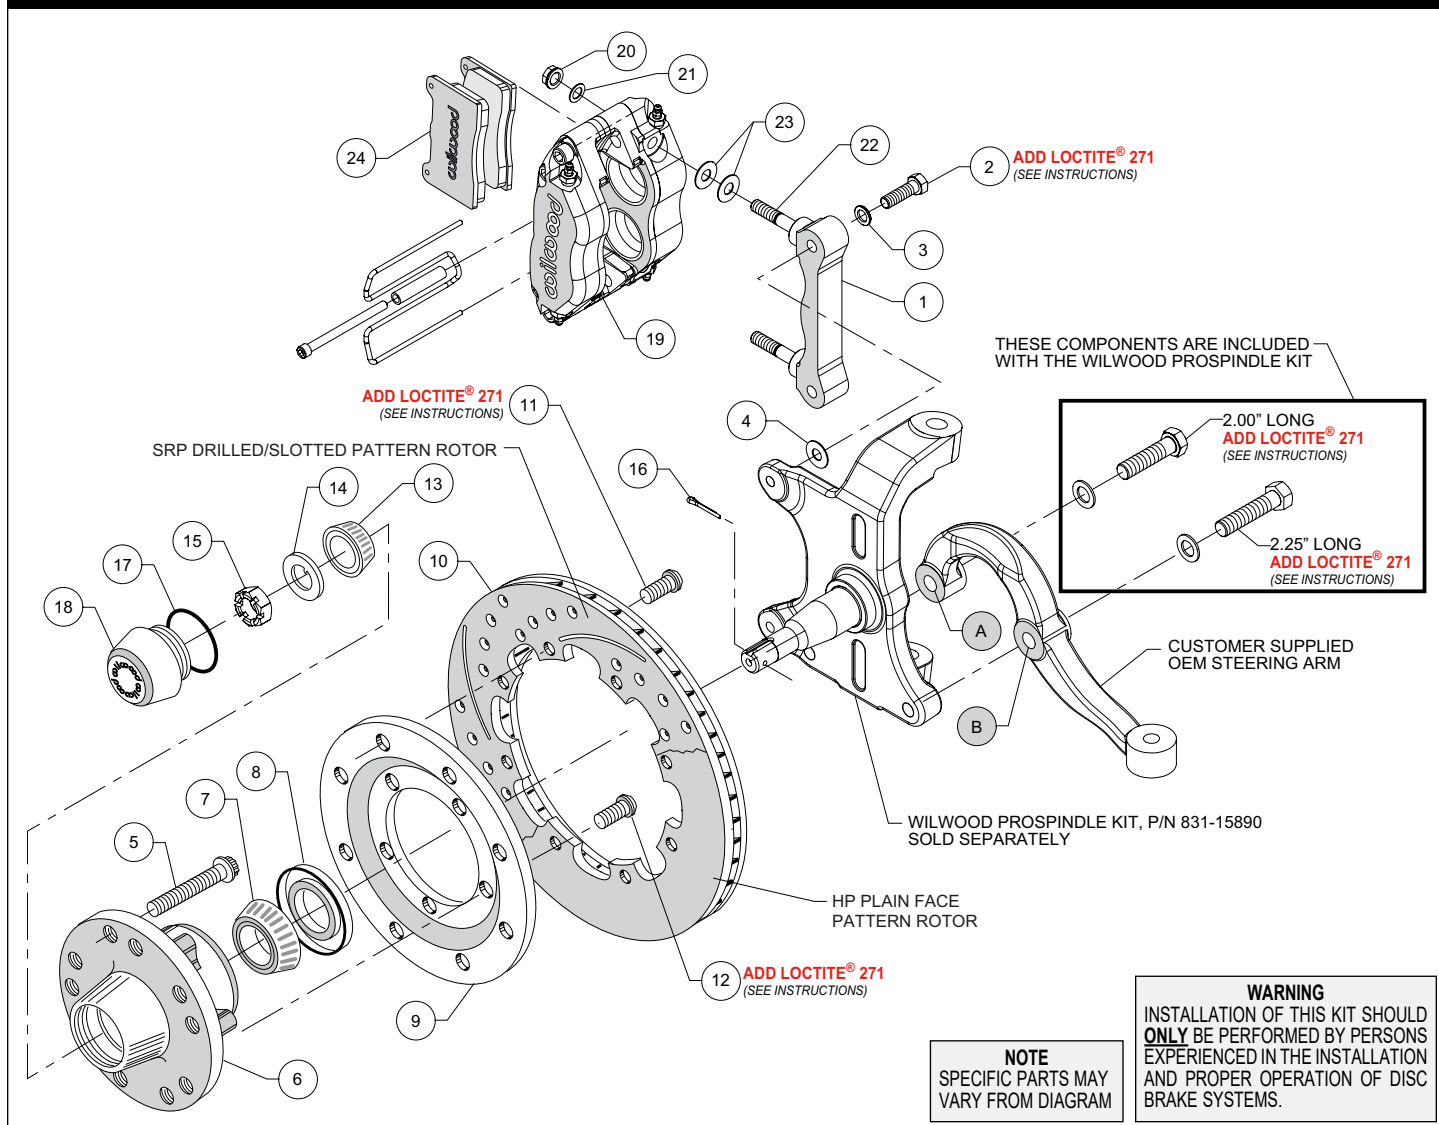

Figure 1. Typical Installation Configuration
Assembly Instructions (numbers in parenthesis refer to the parts list and Figure 1 on the preceding pages):
•**NOTE:** Wilwood's AFX ProSpindle kit includes bolts and washers to mount the steering arm (customer supplied) to the spindle. The various bolts are identified by length in the following instructions and in Figure 1.
- Orient the steering arm, and identify the hole marked "A" as shown in Figure 1. Attach arm to spindle using 2.00" long bolt and washer (from ProSpindle kit), Figure 1. Finish attaching the steering arm through the hole marked "B", using 2.25" long bolt and washer (from ProSpindle kit), Figure 1. Temporarily tighten the mounting bolts. **NOTE:** The steering arm must fit squarely against the mounting points on the spindle. Inspect for interference from casting irregularities, machining ridges, burrs, etc. Remove bolts one at a time, apply red *Loctite*® 271 to threads, and torque to 77 ft-lb.
- The caliper mount bracket (1) should initially be installed with clean, dry threads on the mounting bolts. Orient the bracket as shown in Figure 1 and Photo 1, and install using bolts (2) and washers (3). Initially place one .035 thick shim (4) on each bolt between the bracket and spindle, Figure 1. Temporarily tighten the mounting bolts. **NOTE:** The bracket must fit squarely against the mounting points on the spindle. Inspect for interference from casting irregularities, machining ridges, burrs, etc. Later, after the caliper alignment has been checked, the mount bolts will be secured using red *Loctite*® 271.
- Orient the rotor (10) and the rotor adapter (9) as shown in Figure 1 and Photo 4. Attach the rotor to the adapter using bolts (11). Using an alternating sequence, apply red *Loctite*® 271 to the threads, and torque to 25 ft-lb.
- Mount the adapter/rotor assembly (9 and 10) to the hub (6) using bolts (12), as shown in Figure 1 and Photo 5. Using an alternating sequence, apply red *Loctite*® 271 to the threads, and torque to 45 ft-lb.
- Initially place two .035" thick shims (23) on each stud (22) between the caliper and the bracket, as shown in Figure 1 and Photo 8. Mount the caliper (19) onto the bracket (1) using lock nuts (20) and washers (21), Figure 1. Temporarily tighten the lock nuts and view the rotor through the top opening of the caliper. The rotor should be centered in the caliper, Photo 9. If not, adjust by adding or subtracting shims (4) between the bracket and the spindle. Always use the same amount of shims on each of the two mounting bolts. Once the caliper alignment is correct, remove the bracket mounting bolts (2) one at a time, apply red *Loctite*® 271 to the threads, and torque to 40 ft-lbs.
- Insert the brake pads (24) into the caliper with the friction material facing the rotor (10), as shown in Figure 1 and Photo 10. Check that the top of the brake pad is flush with the outside diameter of the rotor, Photo 11. If not, adjust by adding or subtracting shims (23) between the caliper and the bracket. After the caliper pad height is set, torque the caliper lock nuts (20) to 30 ft-lb. Secure the pads in place using the pad clip retainer as well as the center bridge pad retainer tube, bolt, and locknut, Photo 12. The locknut should be snug without play in the bolt or tube. Be cautious not to over tighten.